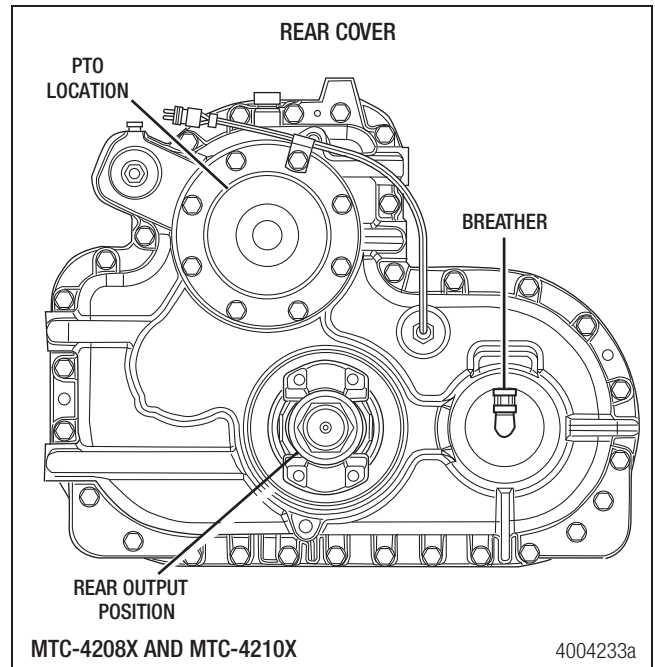

Figure 7.47
- If necessary, install the breather into the rear cover. Figure 7.47.